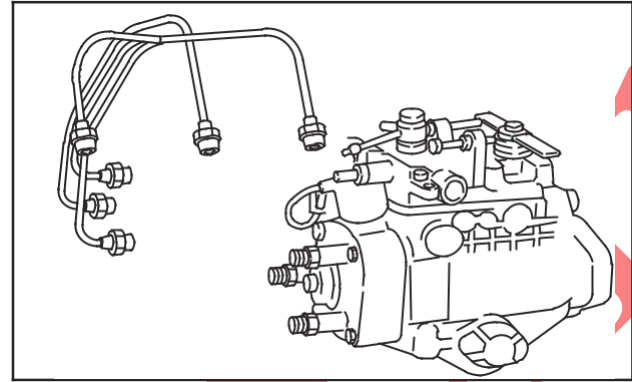

Fig. 1 – Removing Fuel Lines
1. Remove fuel delivery lines from injector pump and injector nozzles, Fig. 1.